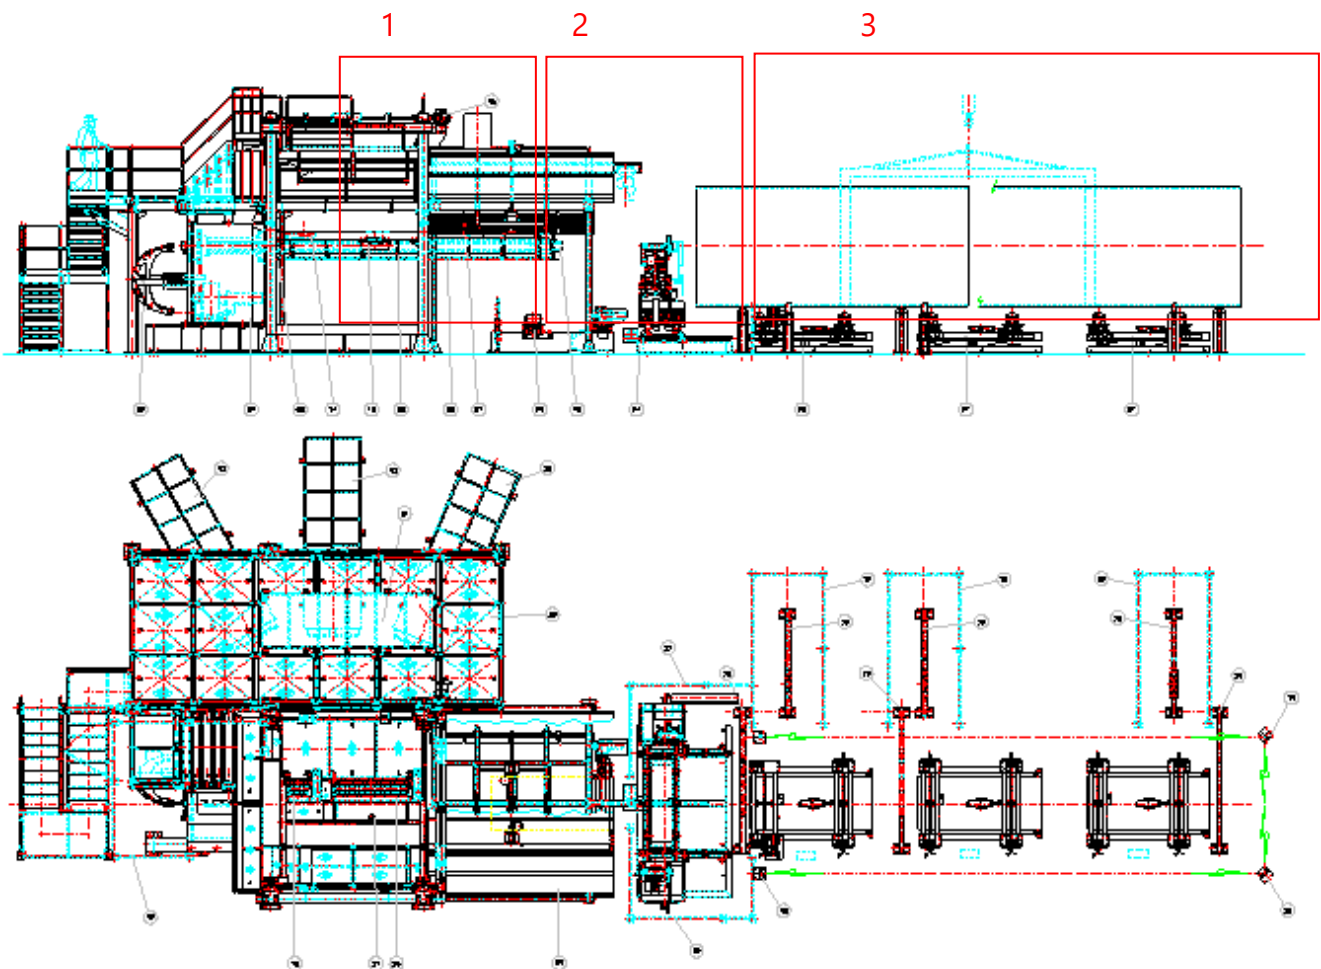

Figure 8: Continuous filament winding machine, general assembly
- Curing station (Figure 8, zone 2);
- Cutting and unloading station (Figure 8, zone 3).